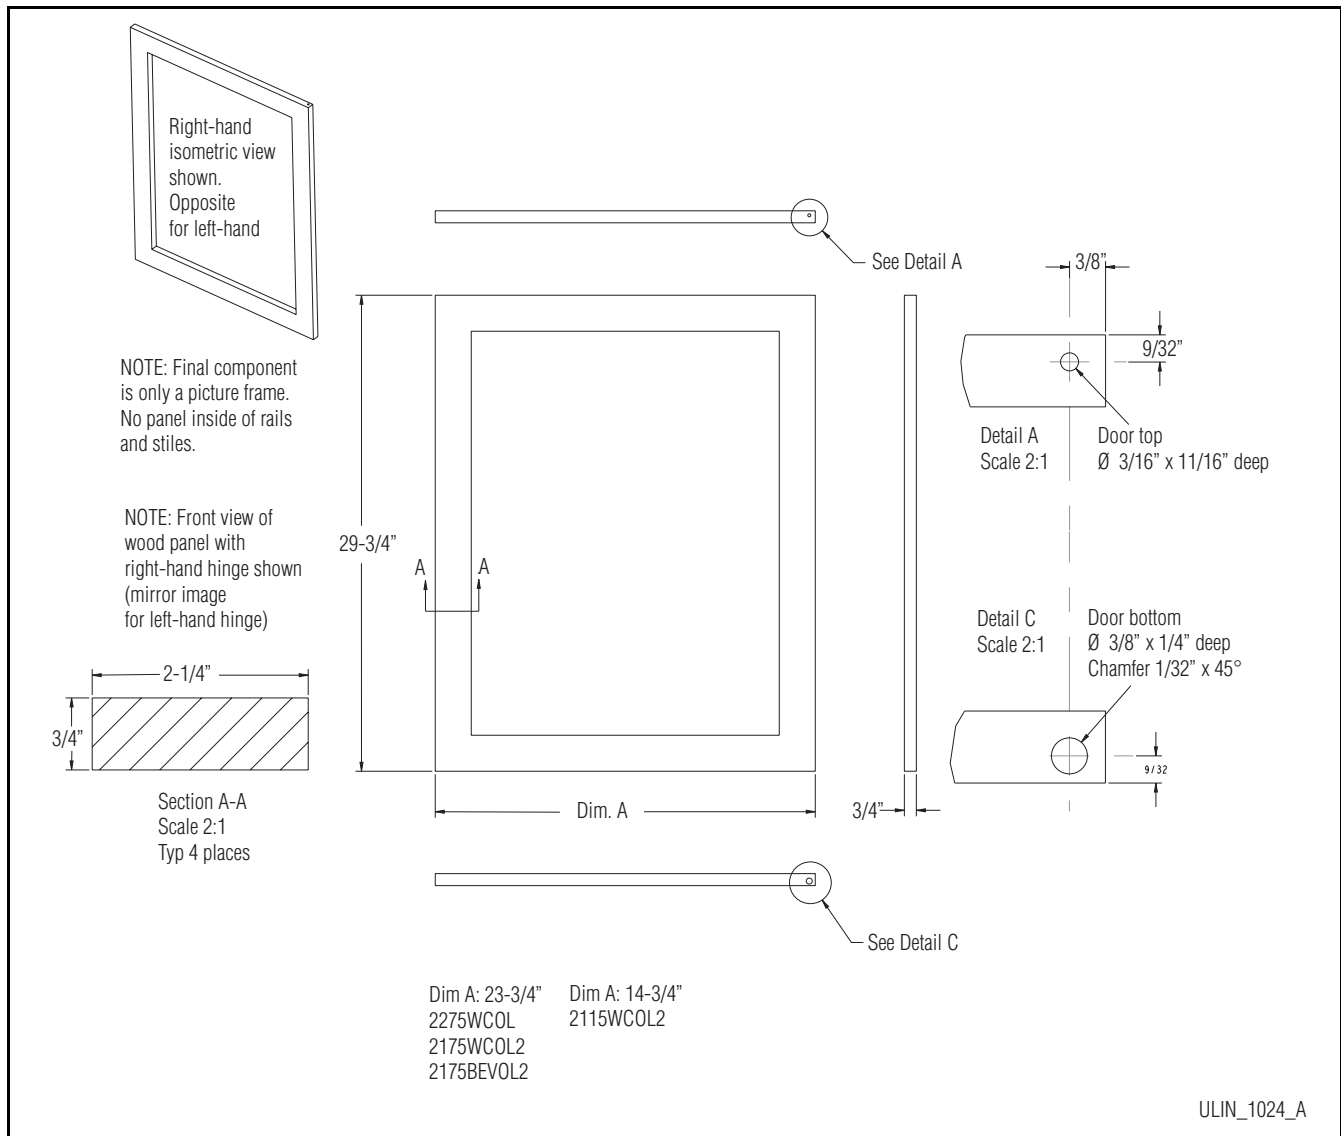

Figure 13
1. Use the following instructions to create or have a wood overlay panel created for your Échelon Wine Captain or Beverage Center model as shown in **Figure 13**.